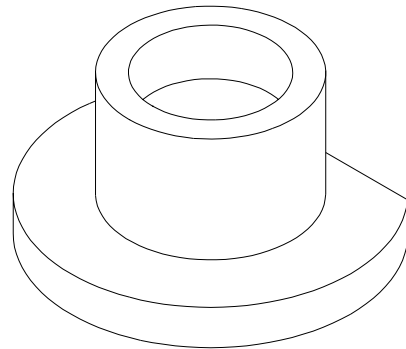

Figure 27-63 Model after union
5. Choose **Home > Modeling > Extrude > Revolve** from the **Ribbon** and then revolve the sketch to an angle of 360-degree. Move it using the center point of the lower face to the center of the lower face of the base of the model. Choose **Home > Solid Editing > Union** from the **Ribbon** and then unite both the objects, see Figure 27-63.